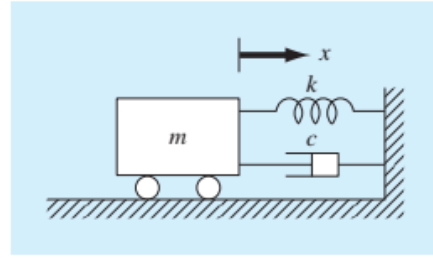

FIGURE P22.15
22.15 The motion of a damped spring-mass system (Fig. P22.15) is described by the following ordinary differential equation: